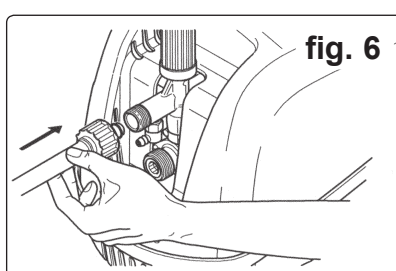

fig. 6
- 3.5. Connect the inlet end (fig. 1.1) of the high pressure hose to the washer outlet (fig. 1.2) as shown in fig. 6.